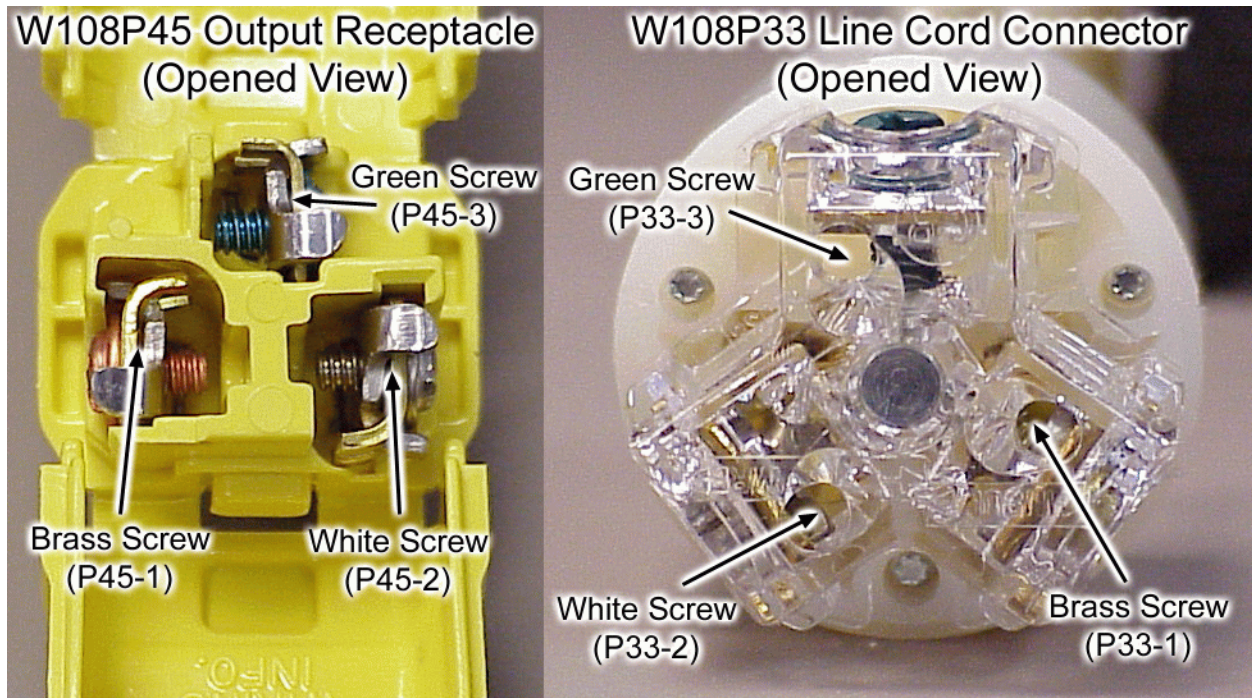

Figure 10 W108P33 and W108P45 Wiring Connections
30. In the DCP, locate the wires which run from W108P3 in the AUX box. Remove labels from the end of the wires marked for 2A1A4. Install new wire markers and connect them to an output receptacle which will be referred to as W108P45. Connect W108P45 to W131P45. Refer to figure 10.
31. In the DCP, locate the wires which run from W108P4 in the AUX box. Remove the labels from the end of the wires marked for 2A1A4. Install new labels and connect them to a line cord connector which will be referred to as W108P33. Refer to figure 10. Connect W108P33 to W131P33.